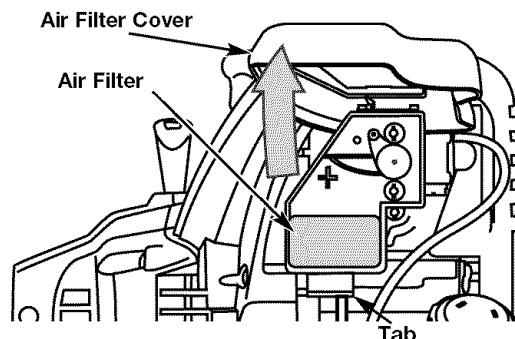

Fig. 31
1. Open the air filter cover. Push the tab on the under side of the cover inward. Then pull the air filter cover out and up. (Fig. 31).
2. Remove the air filter (Fig. 31).
6. Replace the filter (Fig. 31).